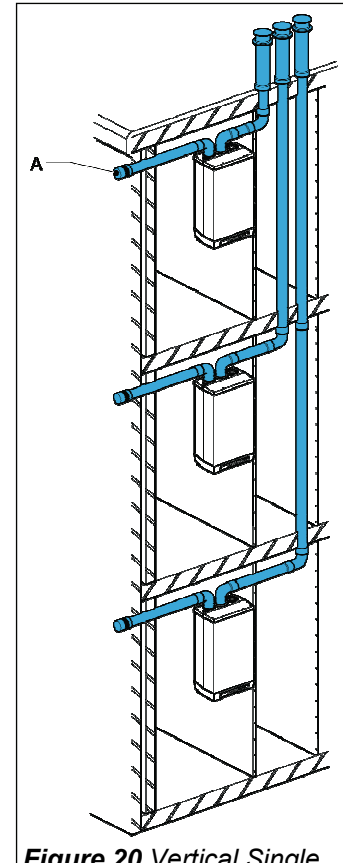

Figure 20 Vertical Single Venting with Side Air Supply
A typical installation of a vertical twin tube venting configuration with air supply from side wall is shown in Figure 20. Install side air supply tube/terminal. The air supply terminal (A) in Figure 20 can be located on the outside wall.